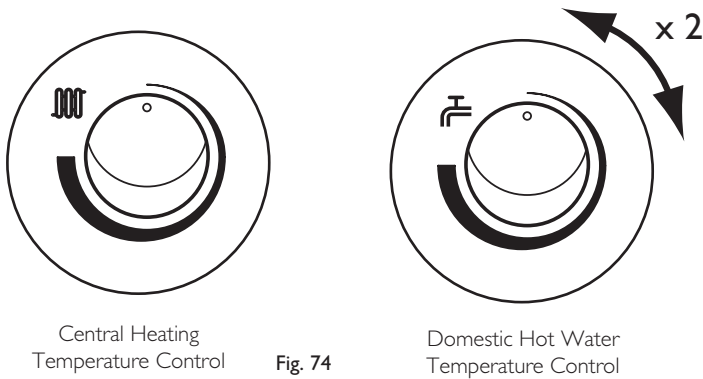

Fig. 74
3. Turn both control knobs fully anticlockwise, then quickly turn the right hand knob  $\frac{1}{4}$  clockwise twice and back fully anticlockwise (Fig. 74).